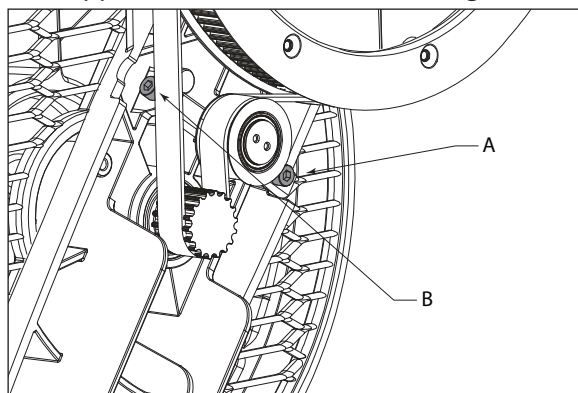

FIGURE 4.2
2. Loosen the lower belt tensioner screw (A), and then the upper belt tensioner screw (B). (Figure 4.2)
2. Guide the belt around the tensioner assembly and then onto the toothed flywheel gear. (See Figure 4.2 for proper belt route)